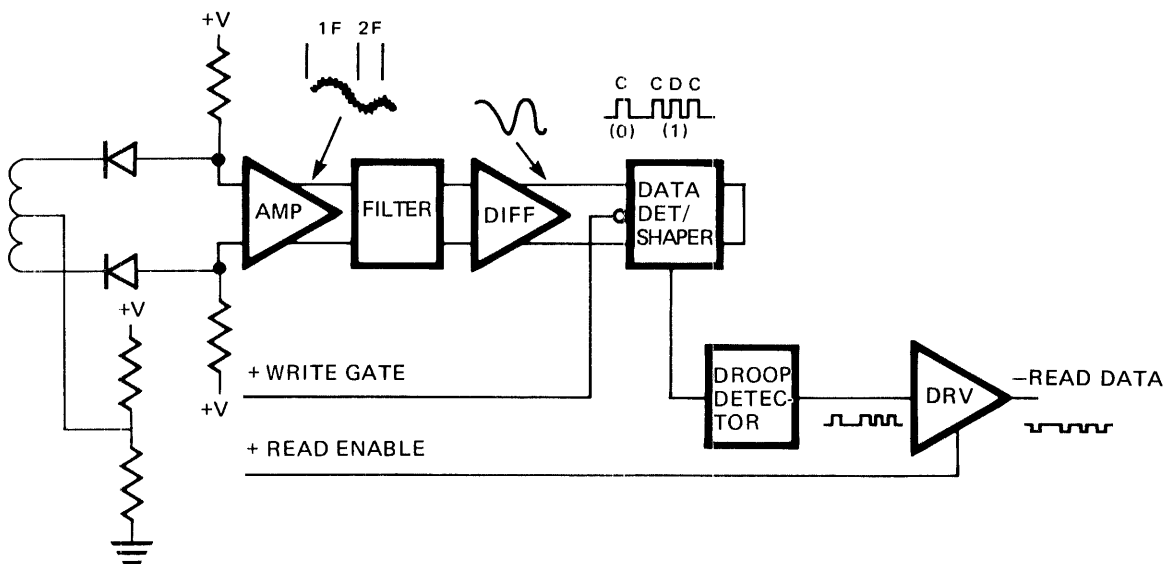

FIGURE 25. READ CIRCUIT FUNCTIONAL DIAGRAM
## 10.0 READ CIRCUIT OPERATION (FIGURE 25)
**10.2** Since a pulse occurs at least once every  $8 \mu\text{s}$  and when data bits are present once every  $4 \mu\text{s}$ , the frequency of the read data varies. The read signal amplitude decreases as the frequency increases. Note the signals on Figure 25. The differential amplifier will amplify the read signals to even levels and make square waves out of the read signals (sine waves).